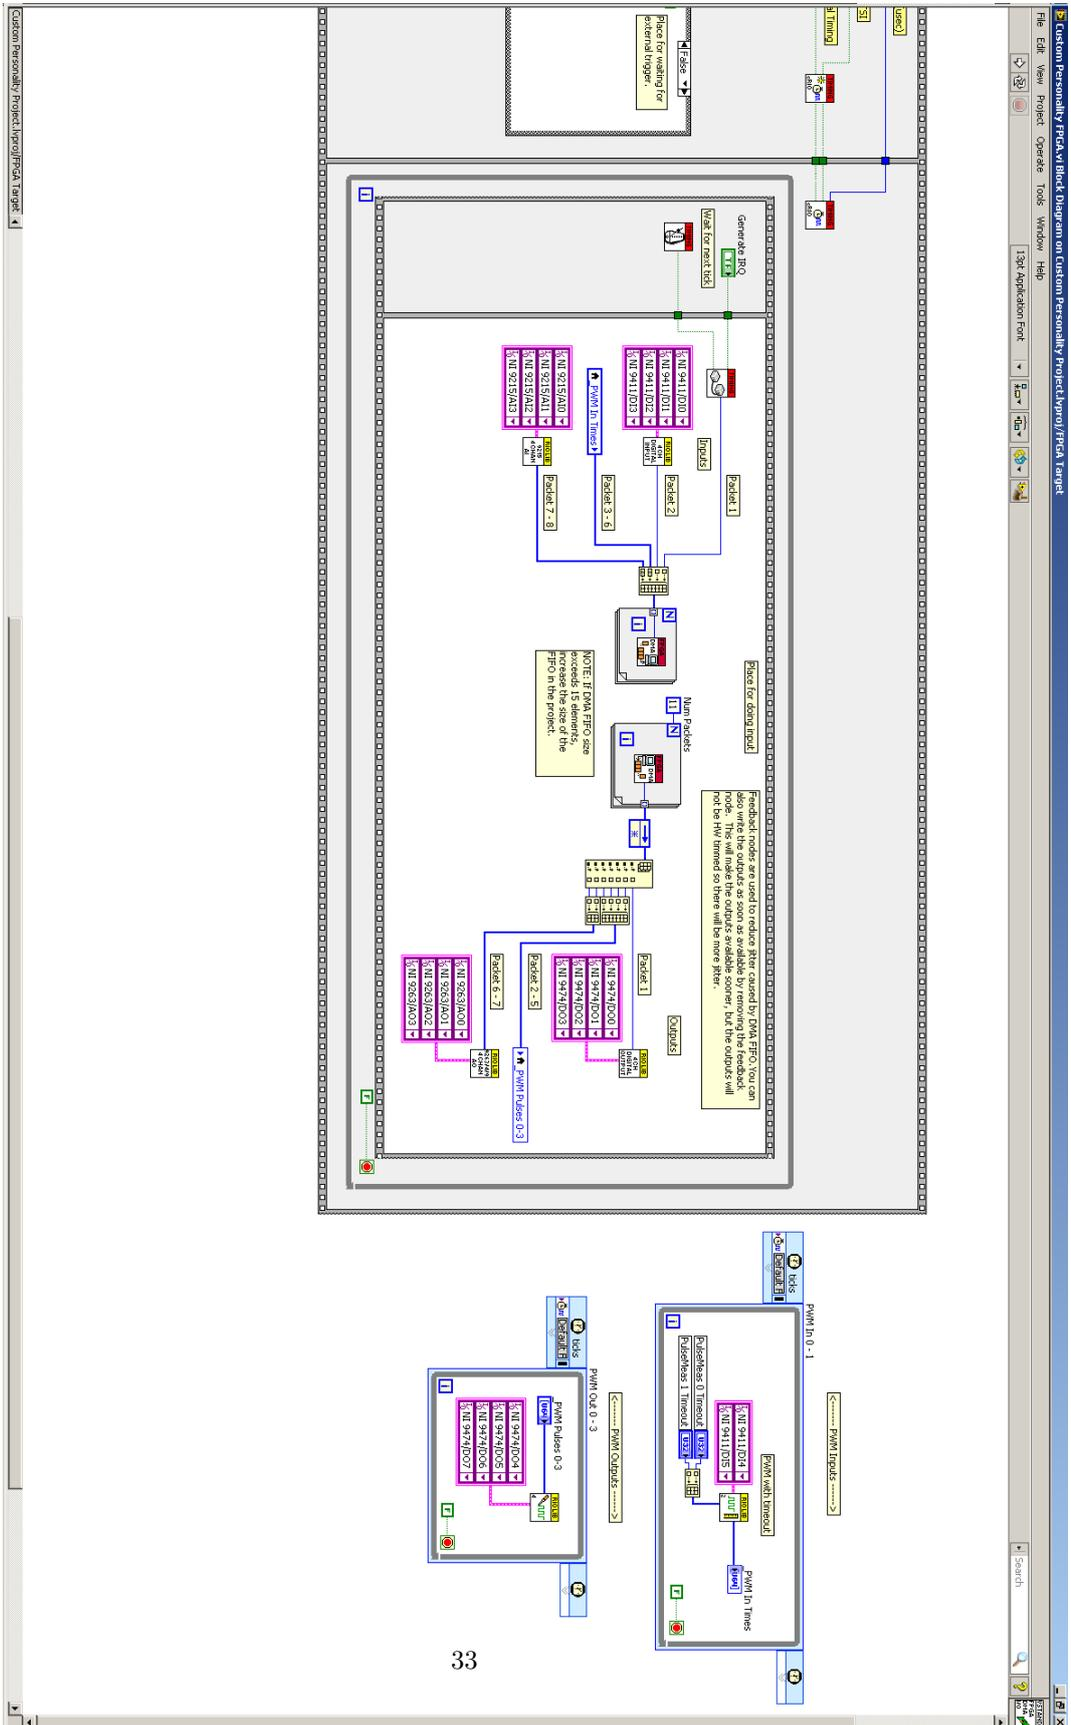

Figure A.11: Create Labview FPGA target and XML - 11
11. You should now see a block diagram similar to Figure A.11. You will now have to redesign this to look like Figure A.12. This will be valid for our system, if you have different I/O modules the block diagram need to reflect this.